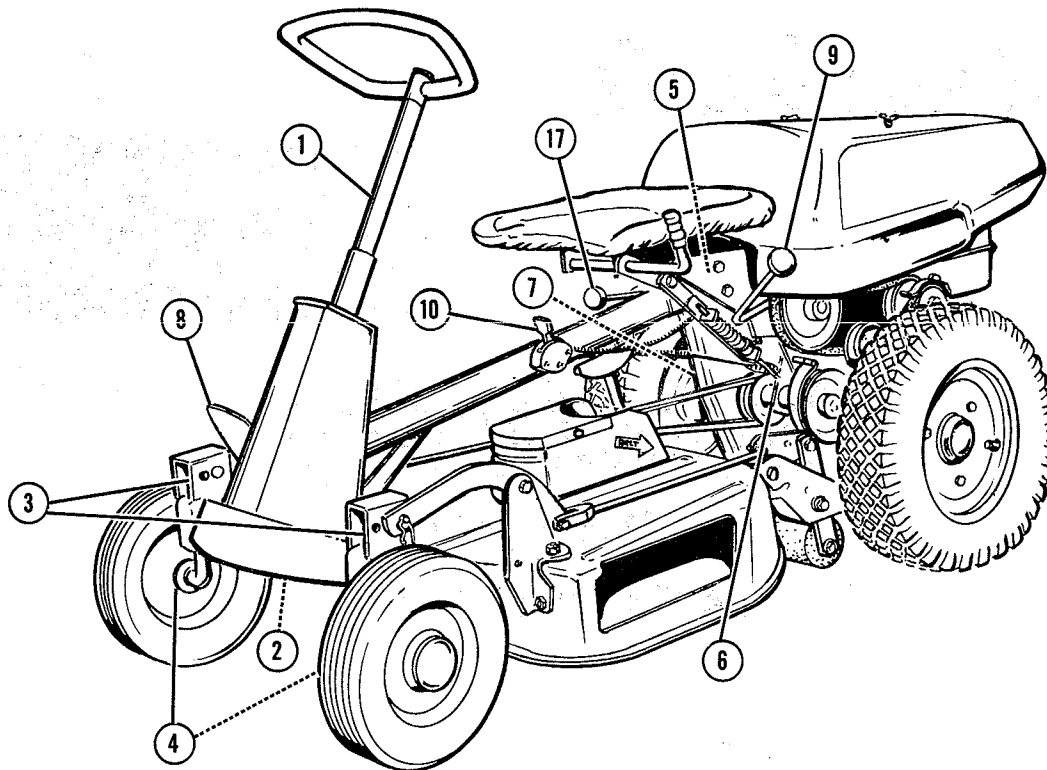

Fig. WB-1
Attach steering wheel column (1), Fig. WB-1, to steering post with  $\frac{5}{16}$  screw and nut provided. There are three sets of holes to provide various height settings for the steering wheel. Choose the setting that will be most comfortable for the operator.
- A. Axle pivot pin (2) Fig. WB-1
- B. Front wheel king pins (3) Fig. WB-1
- D. Front wheels (4) Fig. WB-1
- E. Top and side of gear case (5) Fig. WB-1
- F. Power take-off housing (6) Fig. WB-1
- H. Two speed axle housing (7) Fig. WB-1
The foot pedal (8) Fig. WB-1 on the right side of the front axle assembly, controls the clutch. To engage the clutch depress the foot pedal slowly and hold in depressed position while forward or reverse movement of the Wonder-Boy is desired. To declutch the unit, release the foot pedal.
Shift lever (9, Fig. WB-1) when rotated all the way up meshes forward gears. When rotated all the way down, reverse drive gears are meshed. Center position is neutral. When operating, revolve or rotate shift lever to the extreme limit of its up or down travel to insure full engagement of gears.
Moving shift lever (17, Fig. WB-1) toward seat engages high speed gears. Moving shift lever away from seat engages low speed gears. Center position is neutral and is used to permit moving Wonder-Boy when not under its own power. For Wonder-Boy to move under its own power it must be in high or low speed position.
To use the brake, release clutch pedal and revolve shift lever (9, Fig. WB-1) to more tightly mesh the gears. Pull up when traveling forward or push downward when in reverse.
The speed selection or shut-off lever (10, Fig. WB-1) is marked to indicate where lever should be placed to vary engine speed or shut-off.